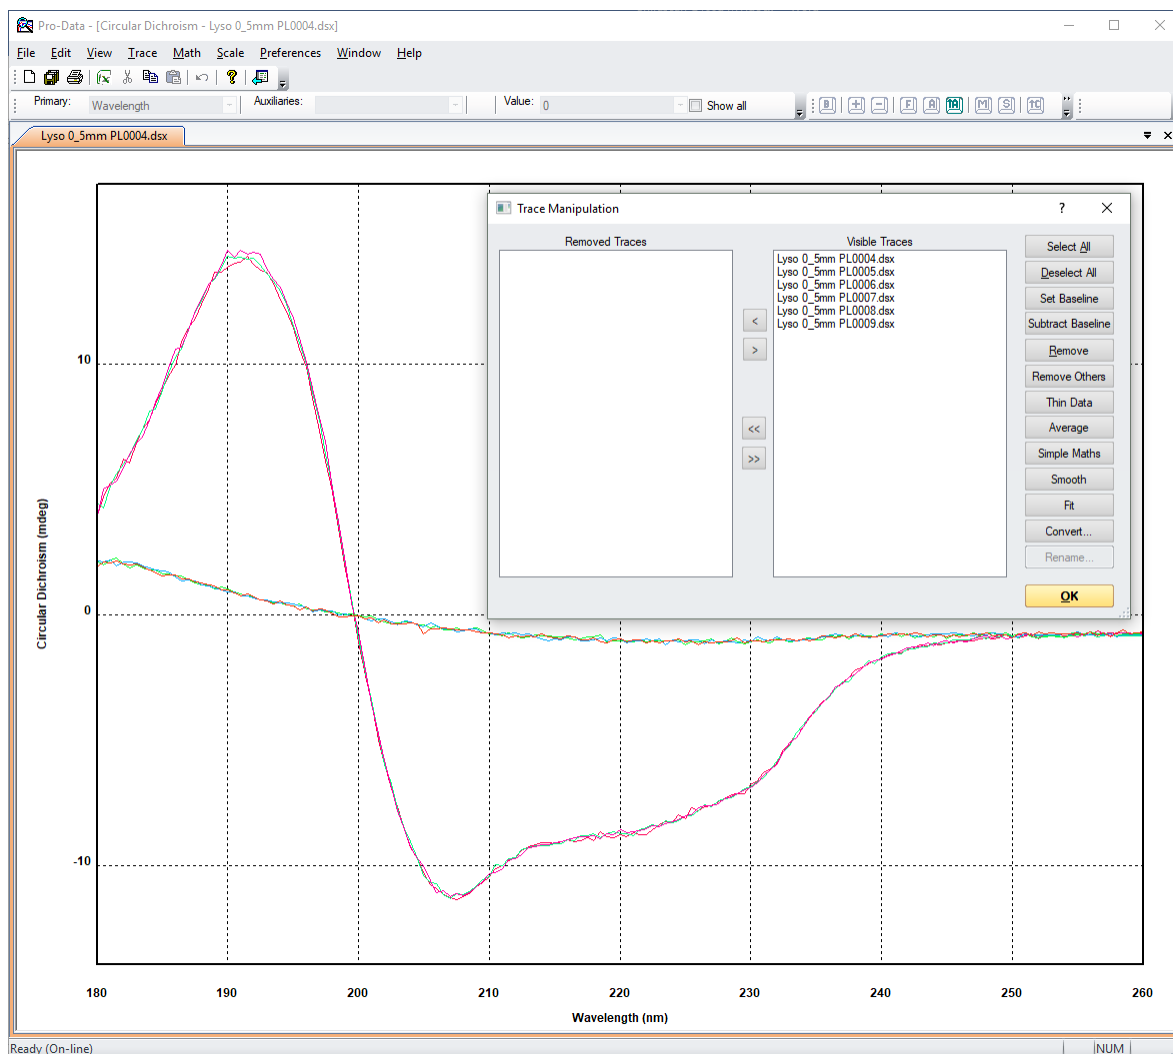

Figure 138: Raw data with Trace Manipulation dialog called up
3. Click on  in the Graphical Display^[106] toolbar to call up the Trace Manipulation dialog^[114] (Figure 138).